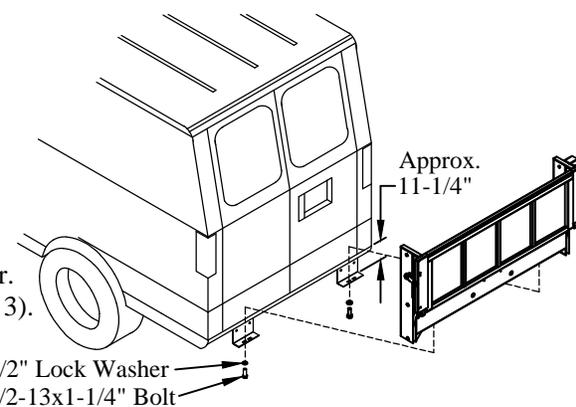

Figure 3: P-200-92 lower bracket location.
2. **Attach** the liftgate to each bracket with a 1/2" x 1-1/4" bolt and 1/2" lock washer. Nuts have been welded to the inside of the liftgate to accept the bolts (Figure 3).